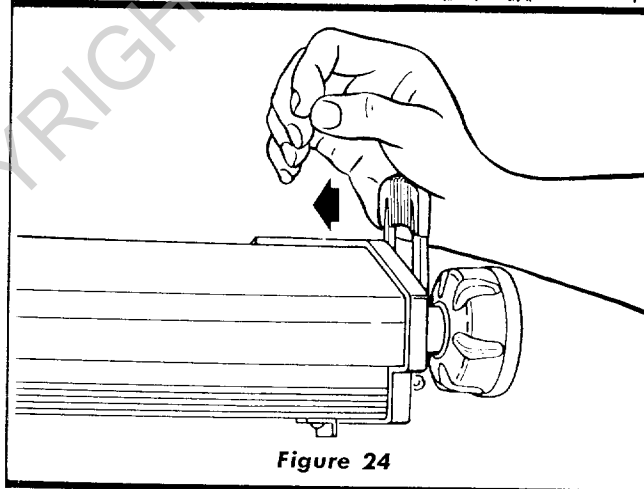
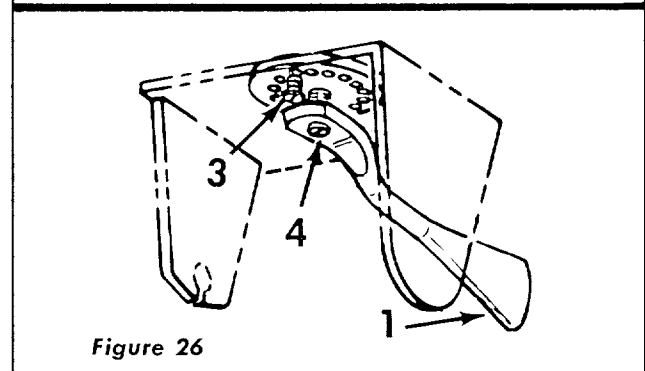

Figure 24
Figure 26
2. Move the radial arm into the index position (do not bump or jar it) and push on the handle (12) or the arm latch lever (1) solidly with the palm of the hand. (See figure 24). This is very important as it insures proper seating of the arm lock pin in the arm latch, thus also returning the arm to the correct cross-cut (0°) position.
Experienced operators of precision equipment, such as this Craftsman Saw, normally acquire the habit of indexing the machine in one direction only whenever a new setting is made in preparation for a different operation. For example: When moving the radial arm to a new position, it is advisable to move it slightly past the desired index position then move it back slowly and carefully to latch and lock it. (See figure 24). Swivel indexing and bevel indexing can be accomplished in the same manner. This technique tends to neutralize any stresses imposed upon saw components and contributes to the high degree of accuracy this saw is capable of producing when operated expertly.
6. Remove the lock screw (3, figure 26).
- Make sure the hole in yoke clamp assembly (2, fig 24) lines up with lock screw hole and install and tighten lock screw (3, figure 26).